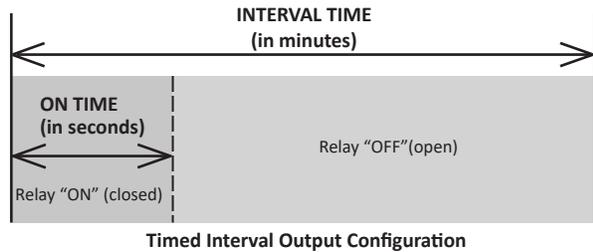

Figure 6.2
*INTMIN* (40478-40479) sets the time (in minutes) between slave sensor power transistor activations. (See Figures 6.2 and 6.3)
*ON SEC* (40476-40477) sets the length of time (in seconds) the slave sensor power transistor is activated. (See Figures 6.2 and 6.3)
TIME R (Timed Interval) activates the slave sensor power transistor for a set amount of seconds every set amount of minutes (See Figure 6.2). When Trip Type is set to 9, Trip Reading and Trip Window are changed to INTMIN (Interval Time, 40478) and ON SEC (On Time, 40476).